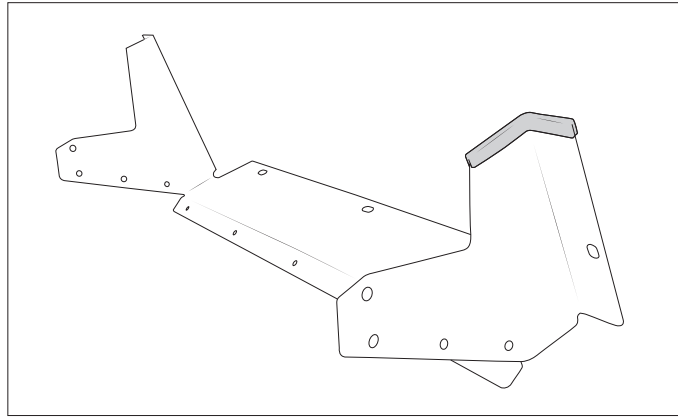

Figure 32
1. Install the edge guard found in the intercooler shroud kit onto the left side of the shroud to protect winch wiring (fig. 32).